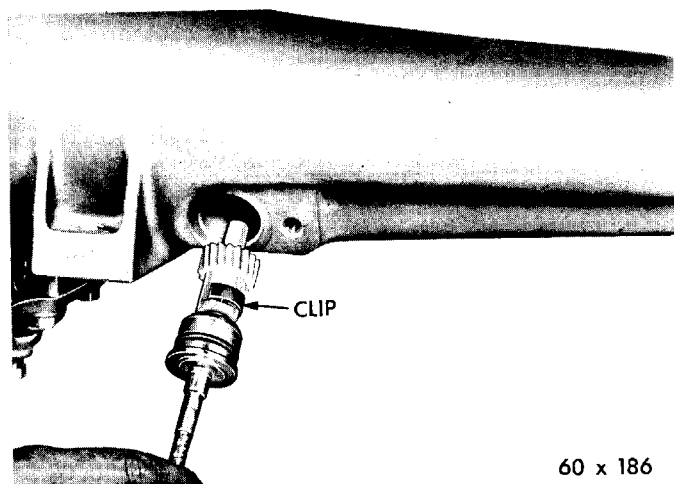

Fig. 18—Removing or Installing Speedometer Pinion
- (1) Remove screw and retainer securing speedometer cable to the extension housing. Carefully work the pinion and sleeve assembly out of the housing (Fig. 18).
- (2) To replace the pinion and/or oil seal, pry the clip off the pinion and slide pinion and seal assembly off the cable.
- (3) If transmission fluid is found in the cable housing, replace seal inside the pinion bore, then slide pinion over end of cable and secure with the spring clip.
- (4) To install, push the pinion and sleeve assembly into the extension housing so the sleeve flange is tight against the housing, then install the retainer and screw. Tighten screw to 35-45 inch-pounds torque.